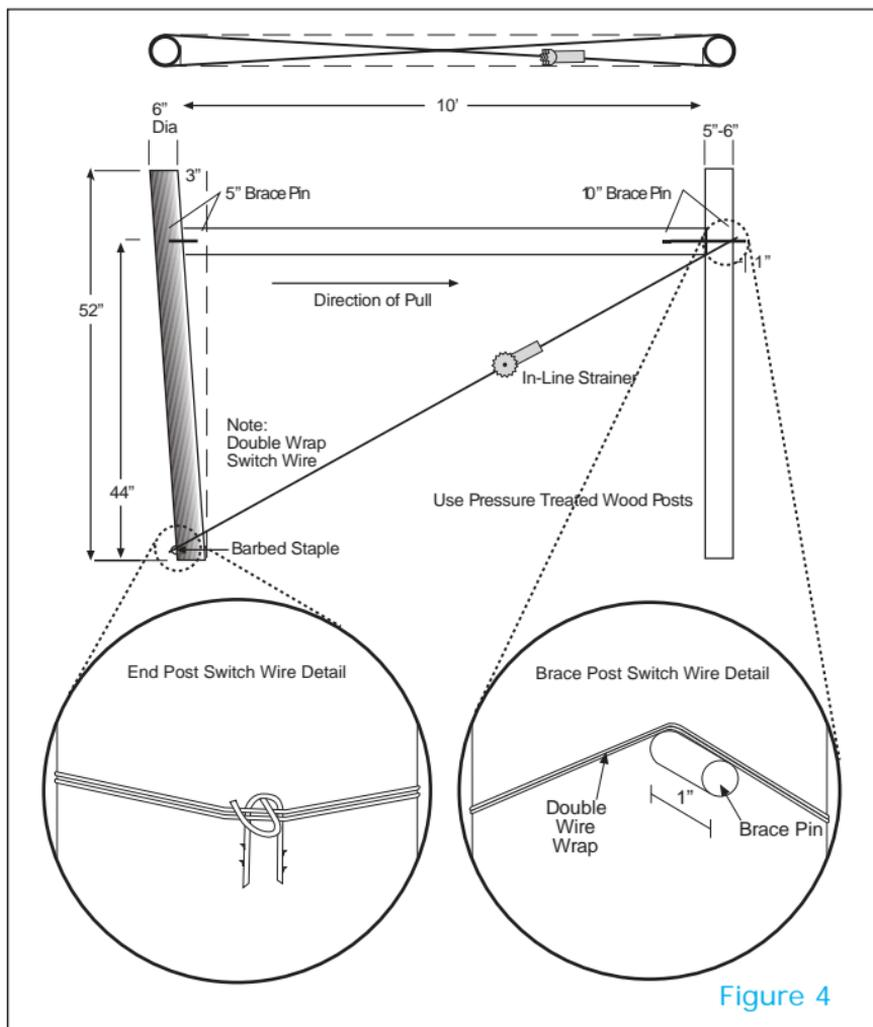
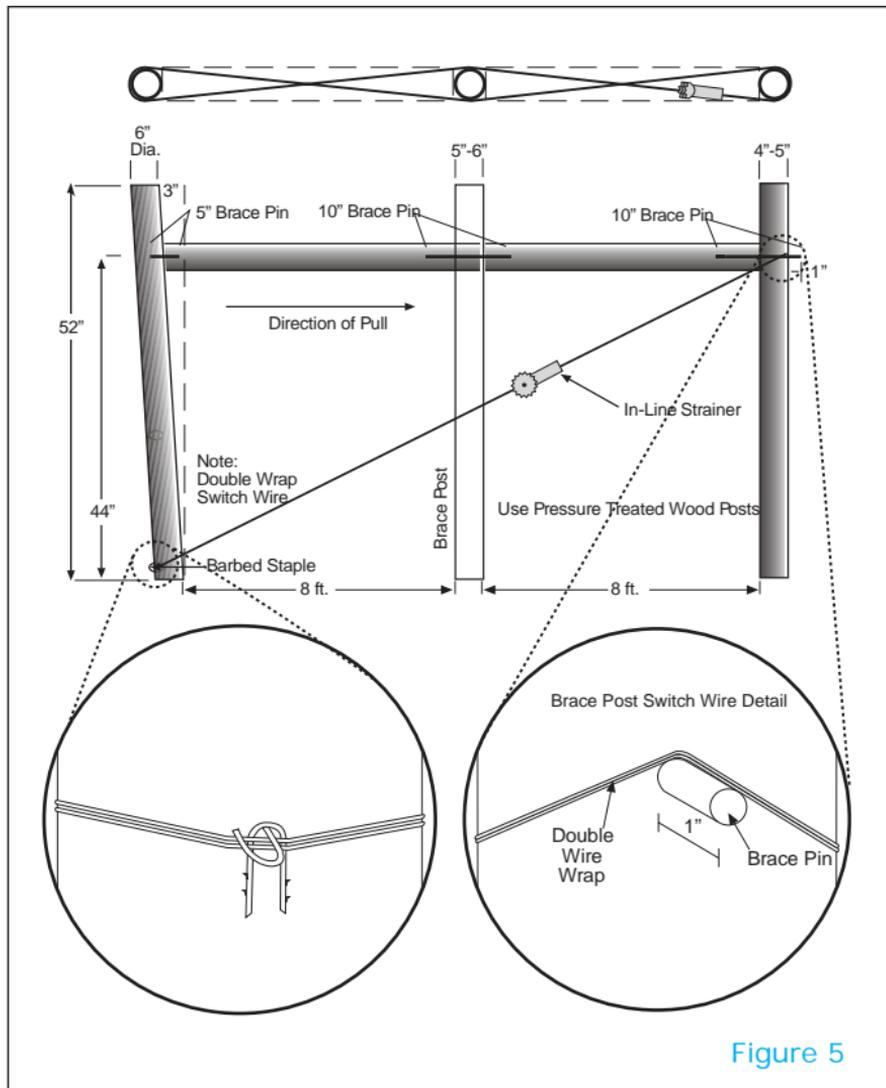
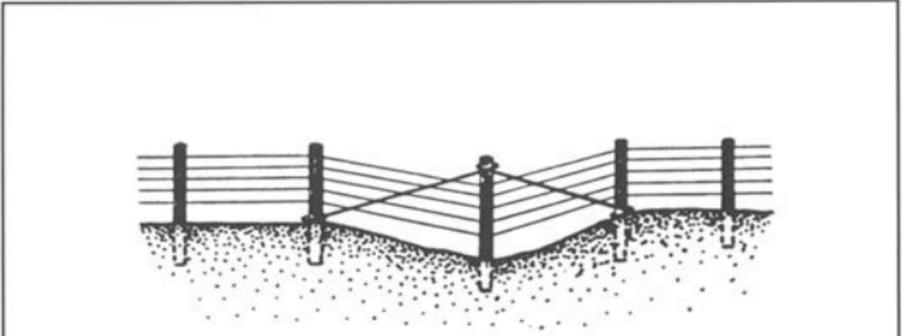
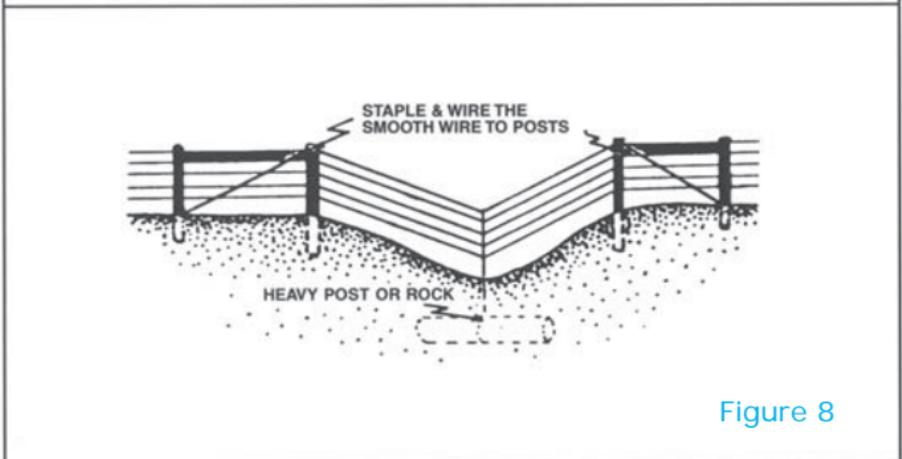

Figure 4
Figure 5
Figure 7
Figure 8
How to Build a Single "H" Brace (Figure 4)
4. Insert a five inch brace pin into the hole that was previously drilled into the corner/end post. You should have 2 to 3 inches of the pin left sticking out of the post. Install one side of the cross member by sliding the hole in the end over the pin that was left protruding from the corner/end post. Next, slide the cross member into place. Use a hammer to drive the 10 inch brace pin through the hole in the brace post, and into the hole in the cross member. Make sure to leave one inch of the brace pin protruding from of the brace post. (Figure 4)
5. Drive a barbed staple at a downward angle approximately four inches from the ground in the corner/end post. Hang another staple on one leg of this staple to prevent the wire from digging into the post. (Figure 4)
6. Wrap the brace wire two times in a figure 8 pattern around the posts making sure to go over the top of the protruding brace pin, and below the staple at the bottom of the corner/end post. (Figure 4)
How to Build a Double "H Brace (Figure 5)
4. Insert a five inch brace pin into the hole that was previously drilled into the corner/end post. You should have 2 to 3 inches of the pin left sticking out of the post. Install one side of the first cross member by sliding the hole in the end over the pin that was left protruding from the corner/end post. Next, slide the first cross member into place. Use a hammer to drive a 10 inch brace pin through the hole in the middle brace post, and into the hole in the cross member. Make sure to leave at least three inches of the brace pin sticking out of the middle brace post. Use this protruding brace pin to install the second cross member. Hammer the second 10 inch brace pin through the inner brace post, and into the second cross member. Remember to leave one inch of the brace pin protruding from the inner brace post. (Figure 5)
5. Drive a barbed staple at a downward angle approximately four inches from the ground in the corner/end post. Hang another staple on one leg of this staple to prevent the wire from digging into the post. (Figure 5)
6. Wrap the brace wire two times in a double figure 8 pattern around all three posts. (Figure 5)
If you must cross a depressed area, set a taller post at the bottom of the depression and brace it down as shown. (Figure 7) If water often runs through the depression, make the fence conform to the land with a buried dead weight. (Figure 8)